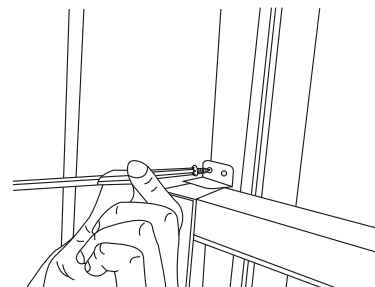

Fig.9
B. To eliminate the risk of the window being raised while the air conditioner is still installed, secure the right angle sash lock with 3/4" screw as shown in Fig. 9.